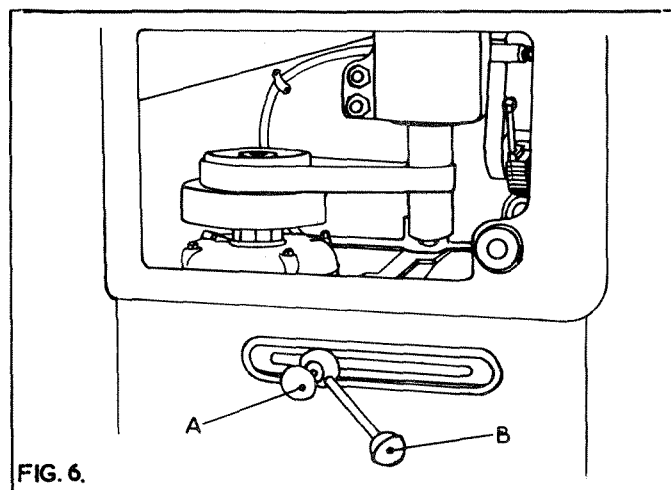

FIG. 6.
2. Remove the tension on the belt by unscrewing the ball handle "B" (right hand thread) as shown in Fig. 6 and move the handlever "A" along the slot towards the front of the machine.